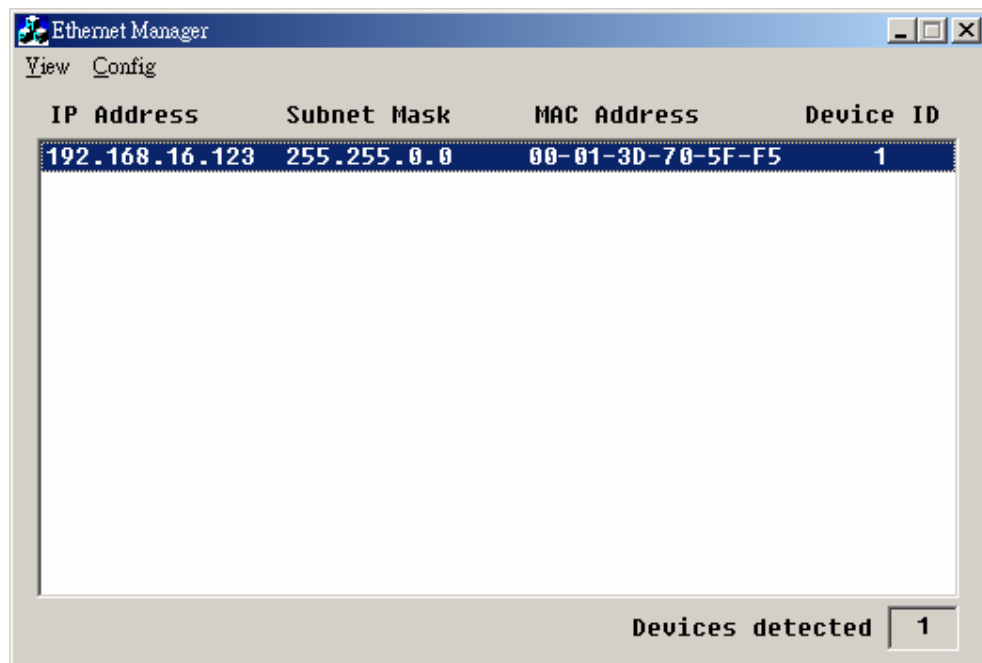

Fig D2-1
2. Run the ETM.EXE which bellows the path of the LAN on the CDROM drive, it will show as fig D2-1 if not , please press F5 to search again, or check the first step was succeed or not.